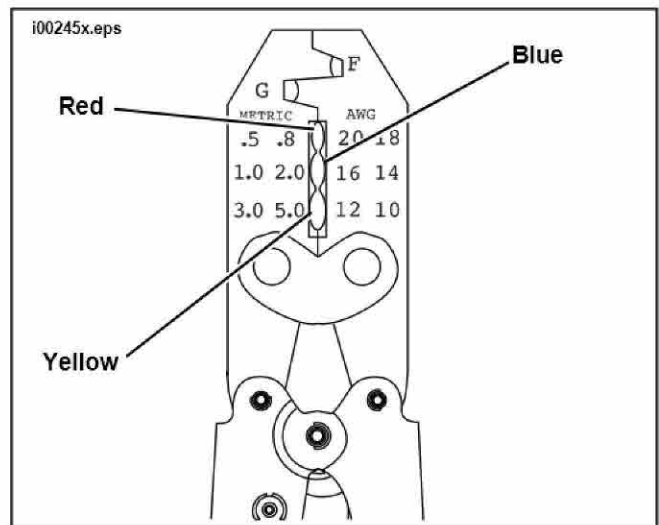

Figure 9. Packard Crimp Tool (HD-38125-8)
- See Figure 9. Crimp the wires in the connector using the Packard Crimp Tool (HD-38125-8). Be sure to match the color or gauge wire marked on the butt splice connector with the corresponding crimp cavity on the crimp tool.